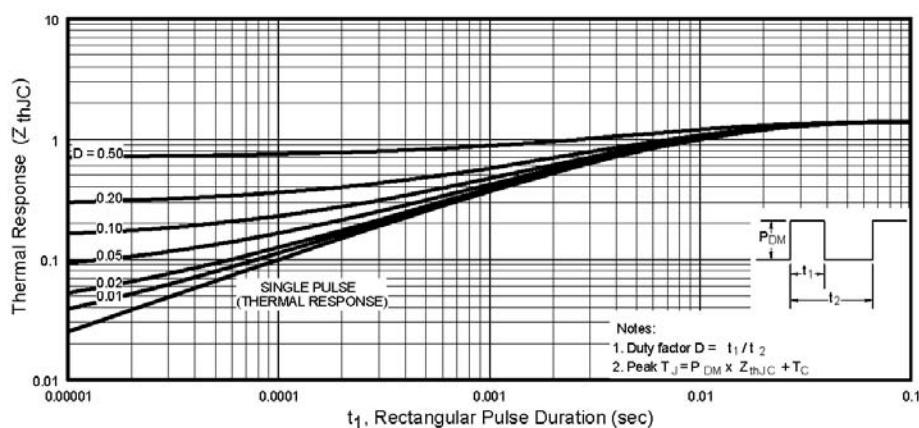

Fig 11. Maximum Effective Transient Thermal Impedance, Junction-to-Case
① Repetitive rating; pulse width limited by max. junction temperature. (See fig. 11)
④ Pulse width $\leq 300\mu\text{s}$; duty cycle $\leq 2\%$.
② $V_{DD} = -25\text{V}$, Starting $T_J = 25^\circ\text{C}$, $L = 2.1\text{mH}$